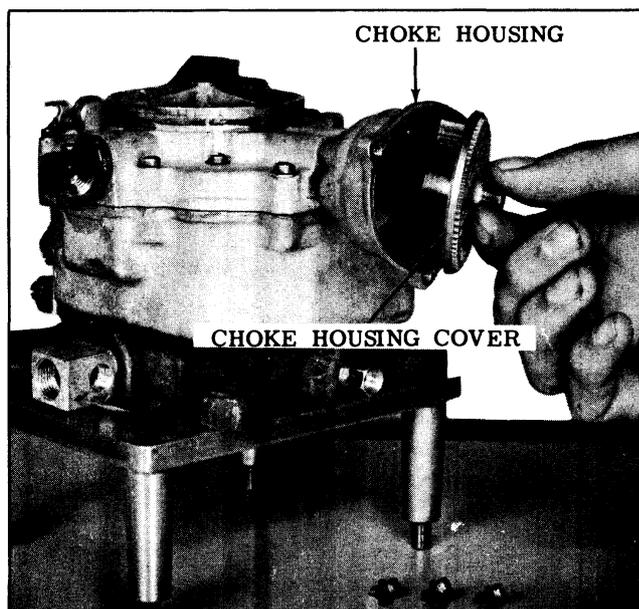

Fig. 8-122 Removing Choke Cover
2. Remove the three choke cover attaching screws and retainers, and remove choke cover, gasket, and coil assembly from carburetor. (See Fig. 8-122)